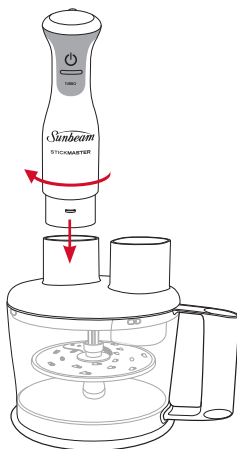

Figure 13
5. Insert the motor housing into the processing bowl lid and twist the wand in a clockwise position until you hear a click. See Figure 13.